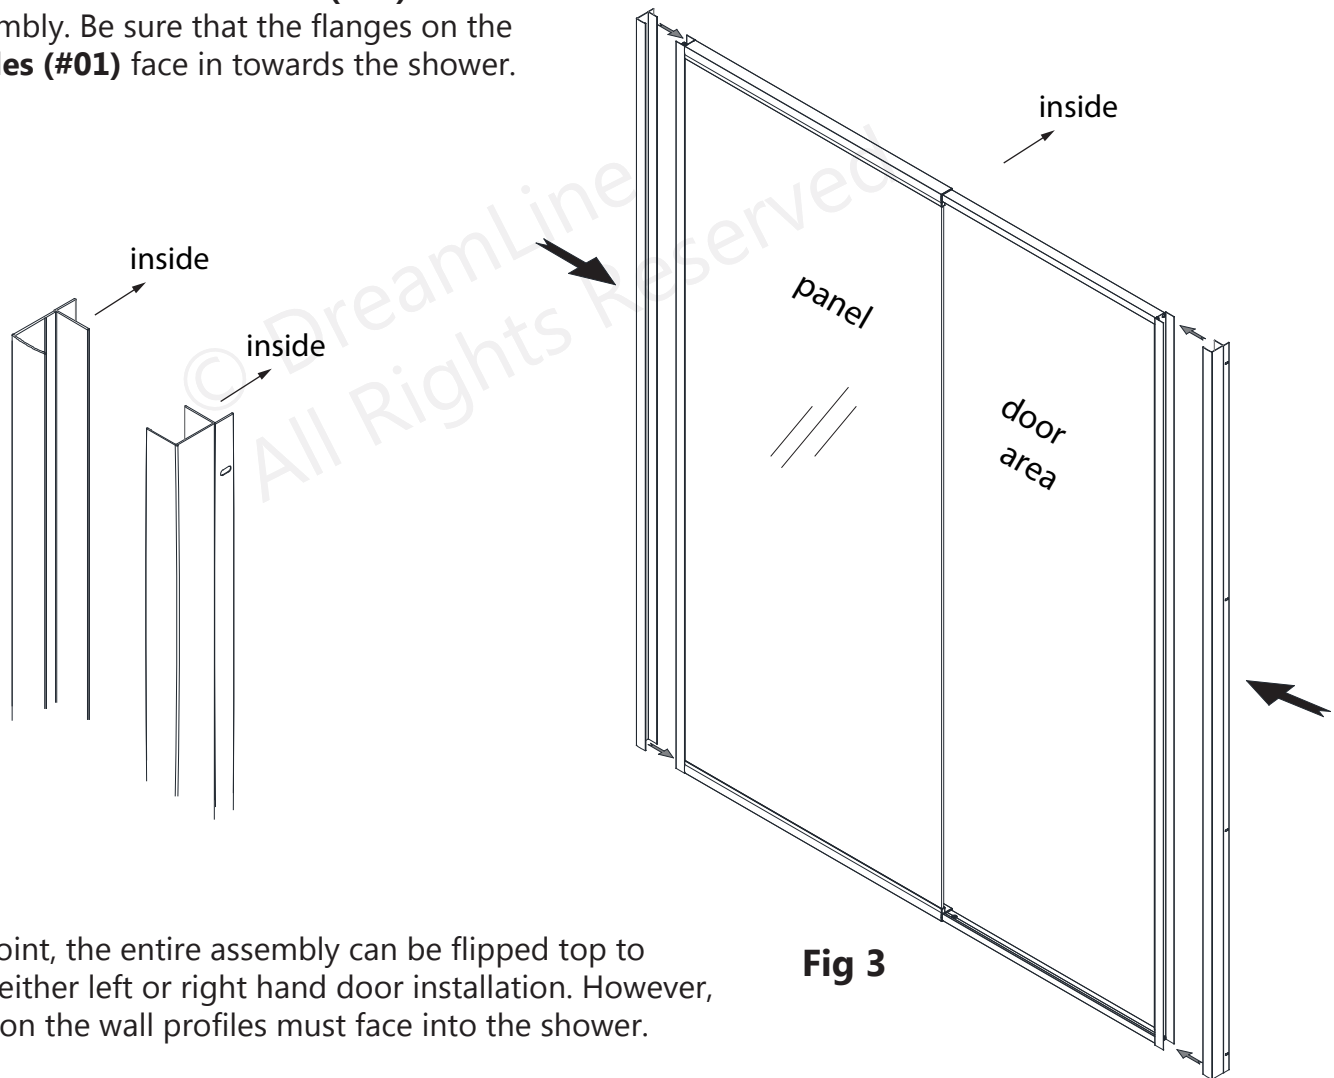

Fig 3
3. Slide both of the **Wall Profiles (#01)** over the frame assembly. Be sure that the flanges on the **Wall Profiles (#01)** face in towards the shower. **(Fig 3)**